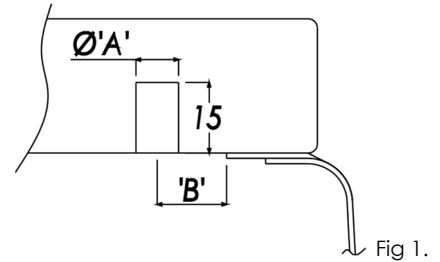

Fig 1.
3. When creating the cut-out aperture, you should also create a series of holes in the reverse face of the worktop to accept the undermount bracket inserts. The holes should be sized and positioned away from the edge of the sink as shown in Fig 1. All brackets supplied should be used and spaced equally around the perimeter. Where the sink has long and short sides more brackets should be used on the longer sides.